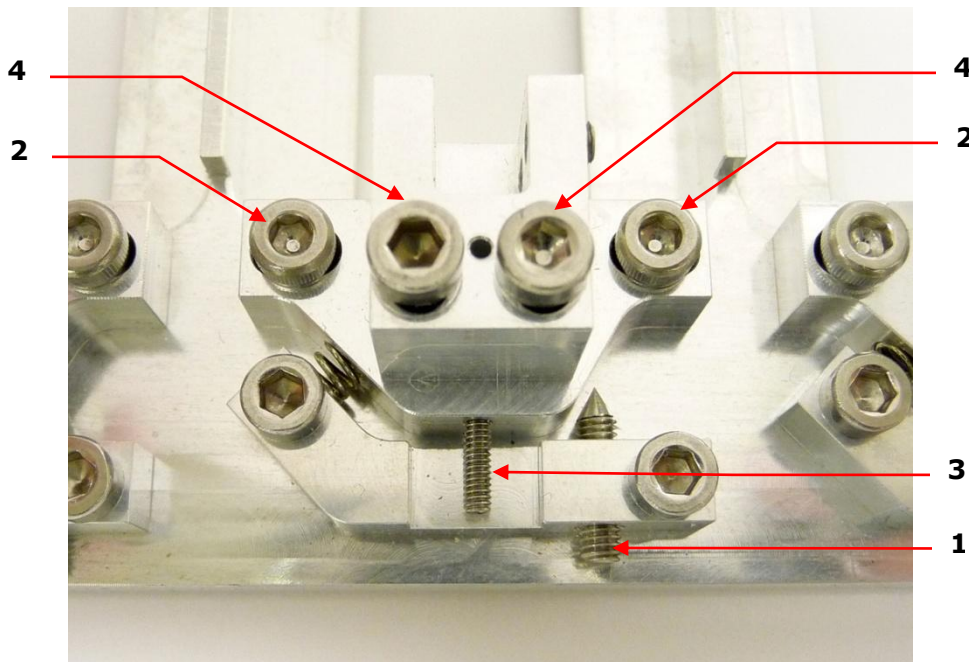
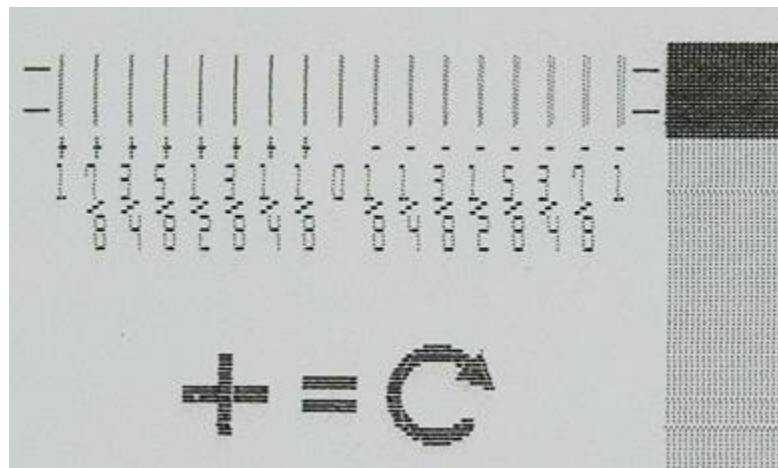

Figure 1: Adjustment Screws
Figure 8: Head rotation close up
4. If an adjustment is needed, perform the following steps (refer to Figure 1).
- A. Loosen the two **head rotation lock screws** (item 2) located at the front of the print head mounting bracket. Using an Allen wrench, apply firm, even force but do not "jerk" the screw loose.
- B. Turn the **head rotation adjustment screw** (item 1) approximately the distance indicated by the close up image shown in Figure 8.